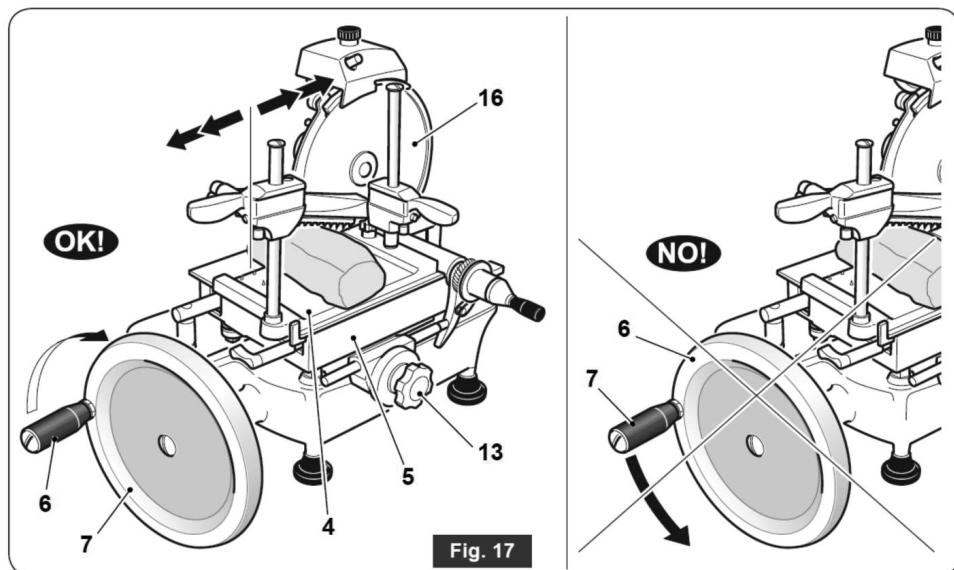

Fig. 17
- Hold the handle (6) and turn the flywheel (7) clockwise in order to begin blade rotation and the alternating movement of the product holder (4) (fig. 17).